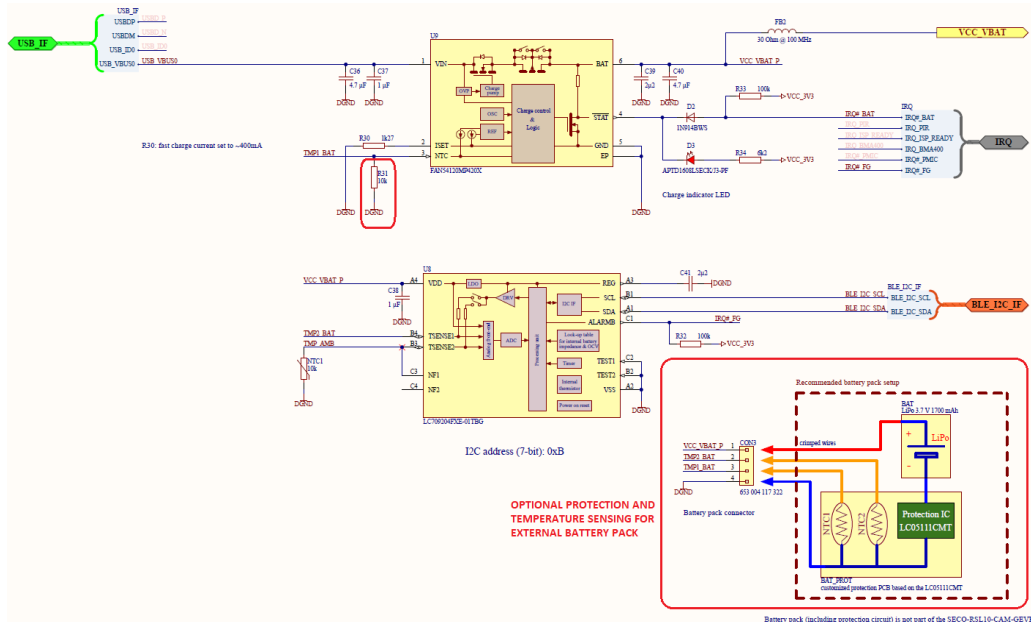

Figure 9. R31 = 10 kΩ to be Removed Once External Li Battery and it's Protection Circuit Connected
1. Remove R31: the 10 k Ω resistor emulates the external NTC sensor. As the board is not delivered with a battery, this dummy resistive load must be connected towards FAN54120 (Figure 9).